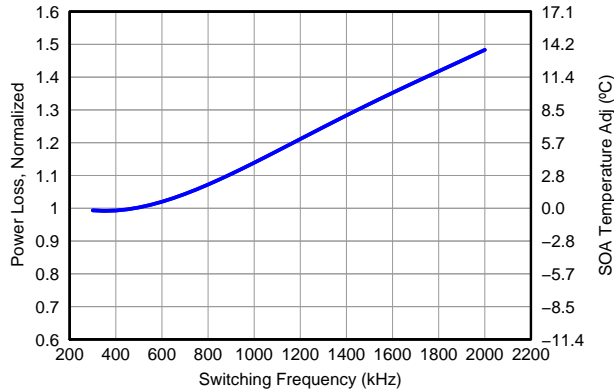

Figure 12. Normalized Power Loss vs Frequency
- Normalized Power Loss for switching frequency \approx 1.08 (Figure 12)
- SOA adjustment for switching frequency \approx 2.6°C (Figure 12)